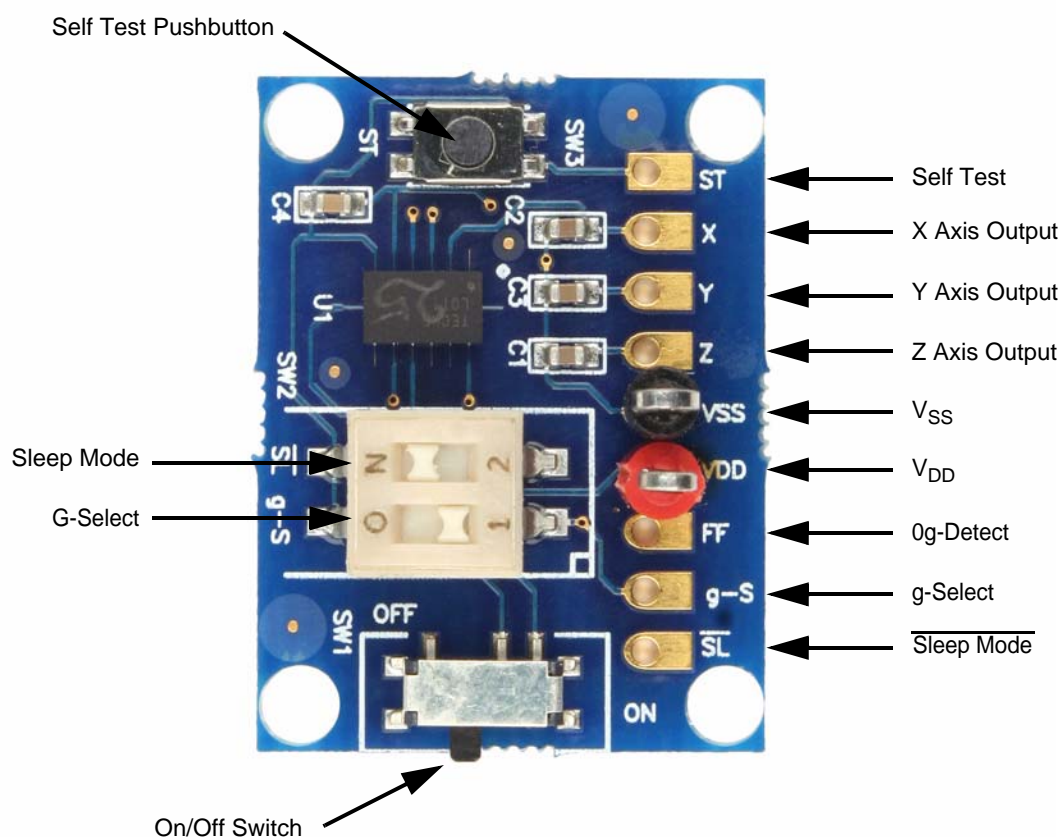

Figure 4. Evaluation Board Components
2. Turn the side on/off switch into the “on” position as shown in Figure 4. The on/off switch provides power to the accelerometer and helps preserve battery life if a battery is being used as the power source. Therefore SW1 must be set toward the “on” position for the accelerometer to function.
3. Using a thin pointed tool turn the sleep mode dipswitch (SW2) to the “on” position as shown in Figure 4, or you can also power the sleep mode using the solder pad available. This enables the device. A low signal (0) will bring the board into sleep mode which puts it in a power saving mode. In this state there will be no X, Y or Z outputs on these output solder pads. For normal device operation though the sleep mode must be in the “on” position.
6. The g-Select is shown in Figure 4 (SW2) in the lower of the two possible g-modes. You can also use the solder pad “G_S” to access and change the g-mode.